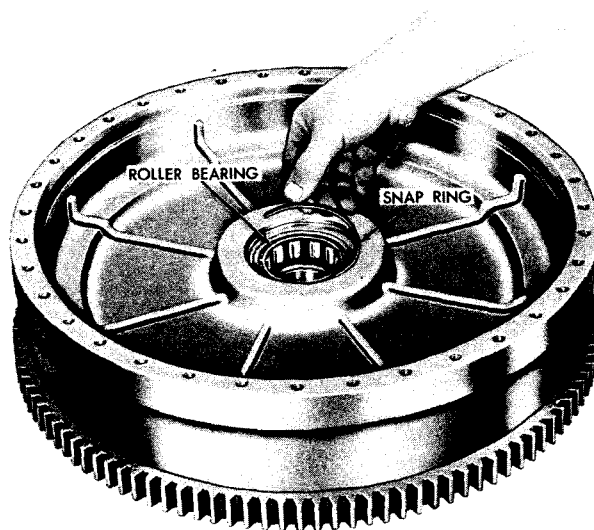

Fig VI-42. Removing (or installing) flywheel roller bearing snap ring
(1) Remove the snap ring that retains the flywheel roller bearing (fig. VI-42). Remove the roller bearing.
(2) The flywheel ring gear is not ordinarily disassembled from the flywheel. If it needs replacement, press or drive the ring gear off of the flywheel.
(2) Install the roller bearing in the flywheel bore. Install the snap ring (fig. VI-42).